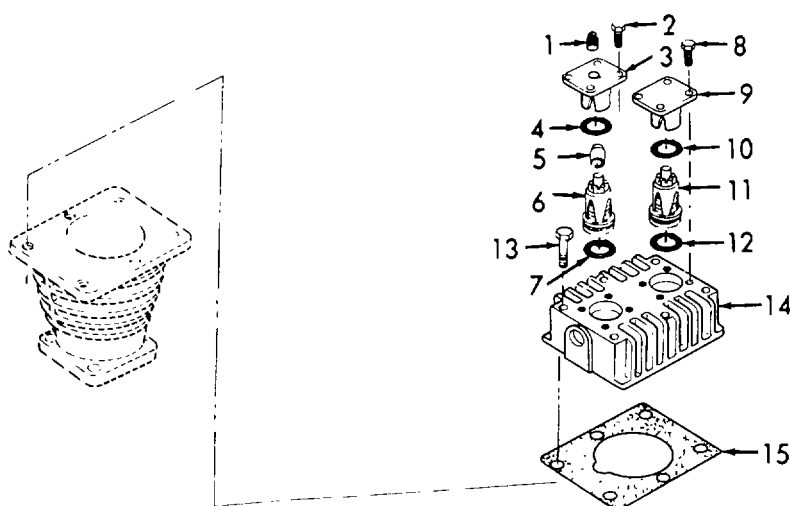

Figure 4-7. Head and Valve Assembly, Installation.
- (1) Install stud (16) and seat (15).
- (2) Install plate (14), spring (13), receiver (12) and nut (11).
- (3) Secure with nut (10).
- (4) Install receiver (9) and spring (8).
- (5) Install plate (7), seat (6), guide (5), and spring (4).
- (6) Install fork (3) and secure with nut (2) and cotter pin (1). Repeat for other two cylinder heads.
f. *Installation.* (Refer to Figure 4-7).